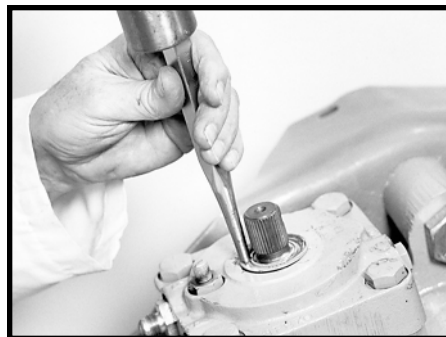

Figure 31
- 2.9 Install the new dirt and water seal (4) with tool J28490 or a suitable blunt end drift. SEE FIGURE 31.